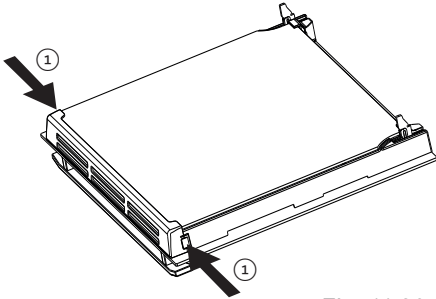

Fig. 11.20
- Touch the glass retainer tabs in on both sides of the door and remove the glass retainer (fig. 11.20, 11.21).